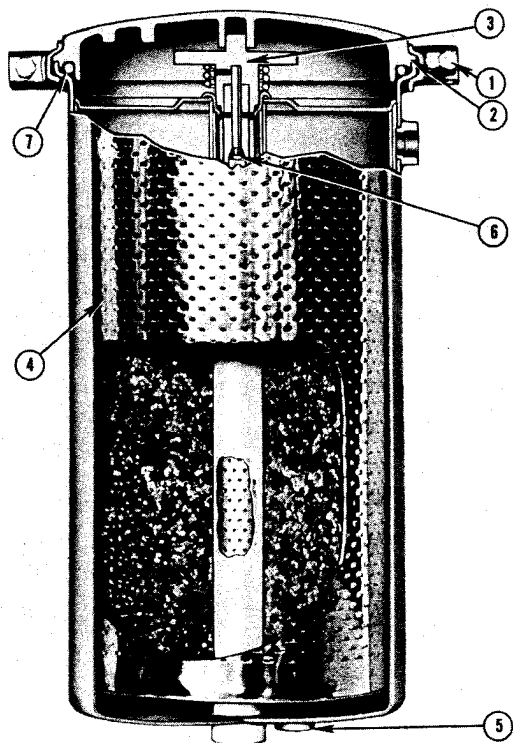

Fig. 2-21, (V41908). Lubricating oil by-pass filter
1. Remove drain plug (5, Fig. 2-21) from bottom of housing and drain oil.
2. Remove clamping ring capscrew (1) and lift off cover.
3. Unscrew upper support hold-down assembly (3); lift out element (4) and hold-down assembly. Discard element.